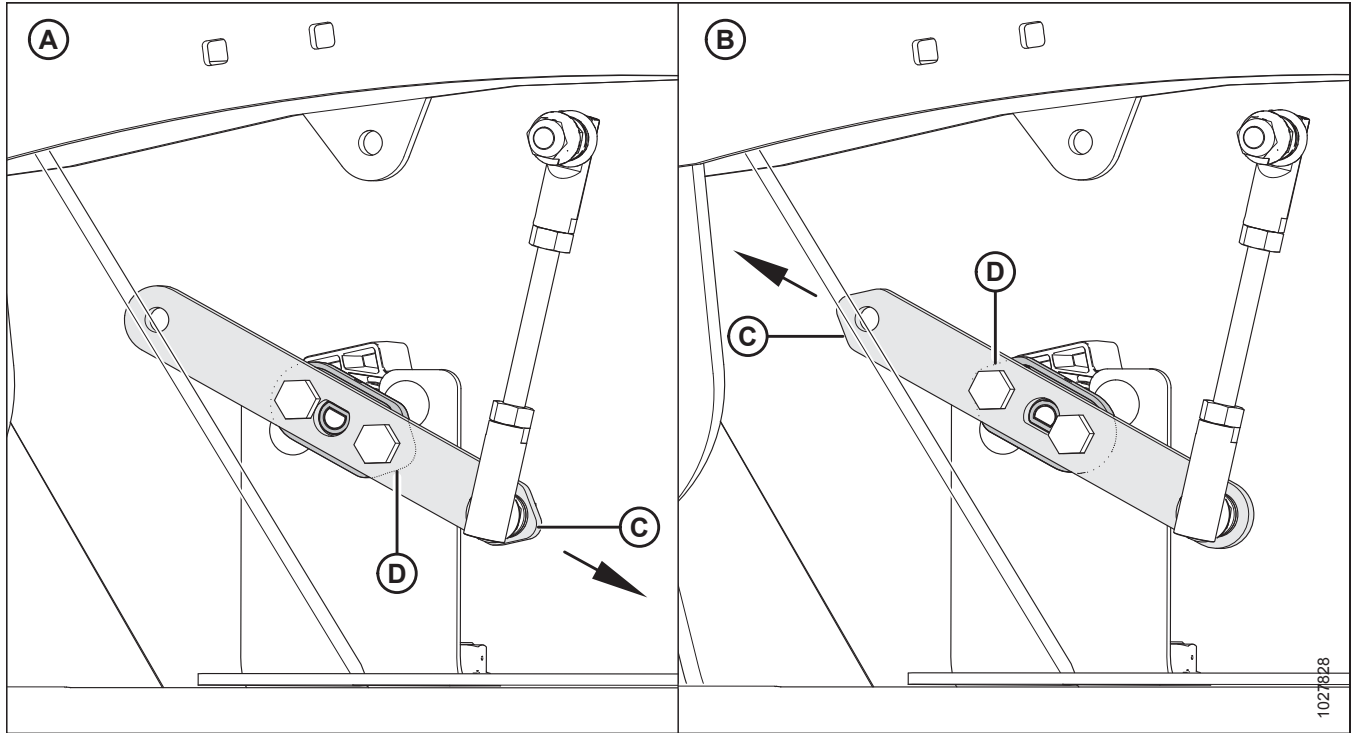

Figure 3.103: Sensor Arm/Pointer Configurations
- Check that sensor arm (C) and pointer (D) are configured properly for your machine. Refer to Figure 3.103, page 99.